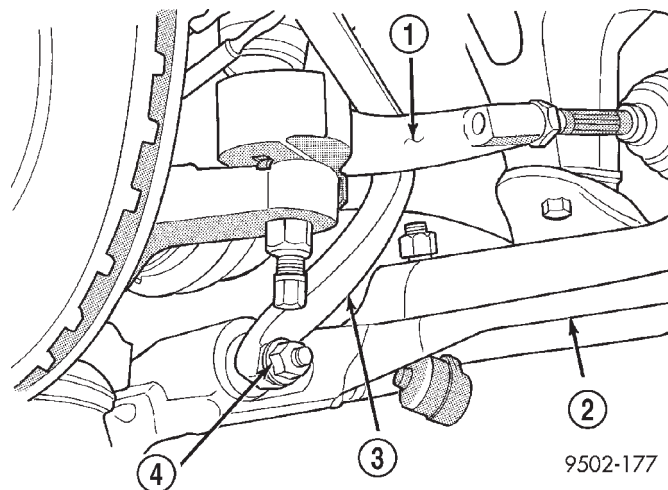

Fig. 47 Clevis To Lower Control Arm Attachment
(7) Remove the shock absorber clevis to lower control arm bushing, nut and thru-bolt. Separate the clevis from lower control arm (Fig. 47).
(9) Install the clevis on the lower control arm. Loosely install the clevis to bushing thru-bolt (Fig. 47).
(11) **With the vehicle's suspension at curb height**, tighten the clevis to lower control arm bushing thru-bolt nut (Fig. 47) to a torque of 88 N·m (65 ft. lbs.).